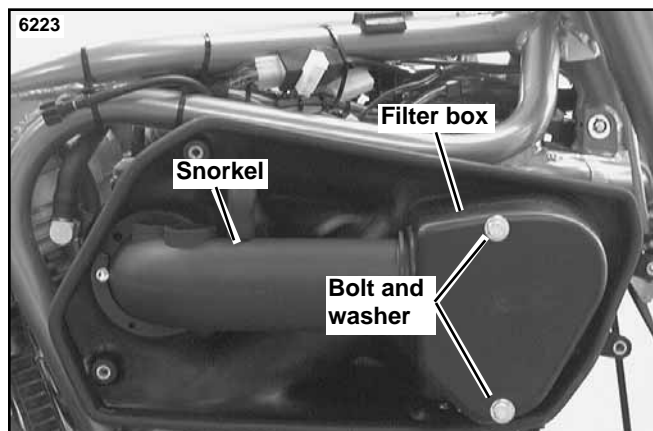

Figure 12. M2 or S3 Stock Filter Box
6. See Figure 12. Remove two bolts and washers from filter box. Slide filter box forward away from snorkel.